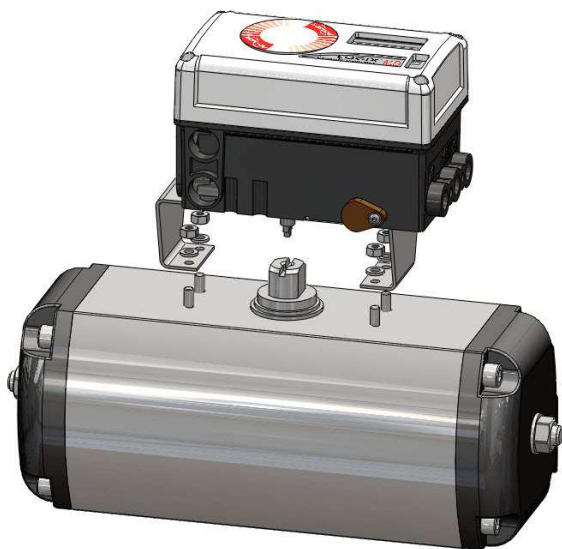

Figure 18: AutoMax Assembly
- 13 Mount the positioner onto the actuator using the washers and nuts. See Figure 18.